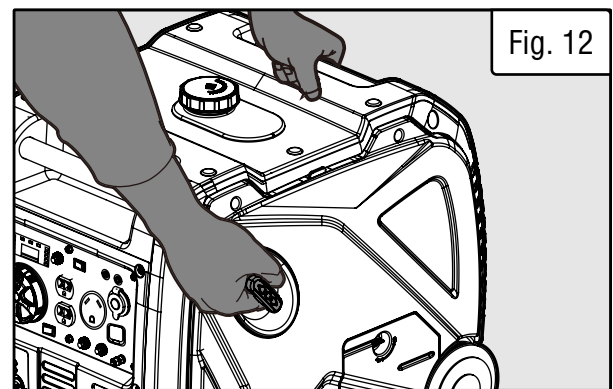

Fig. 12
3. Place one hand on the generator to hold it in place, and pull on the recoil starter handle slowly until a slight resistance is felt (Fig. 12). Then pull quickly to start the engine. Return cord gently into the machine. Never allow the cord to snap back.